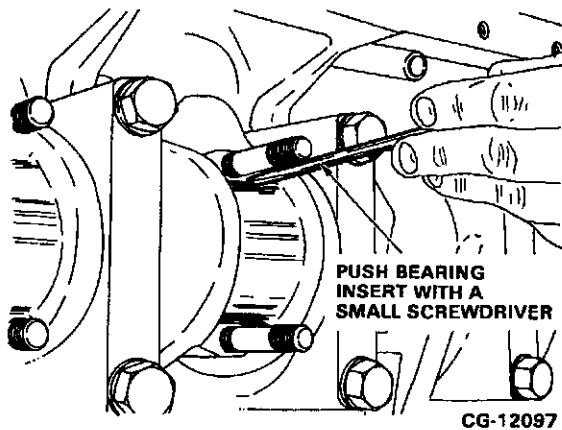

Figure 6.9. Release Bearing Insert Tang
6. Remove the upper connecting rod bearing insert by carefully inserting a small screwdriver at the edge of the bearing insert (between the connecting rod and the crankshaft journal) to release the tang. Refer to Figure 6.9.